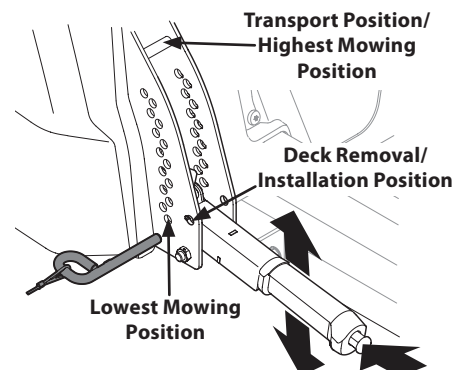

Figure 4-13
- a. Using the deck lift handle, raise the deck to the position that provides the most horizontal run of the belt between the deck idler pulleys and the PTO pulley on the bottom of the engine. See Figure 4-13.
- d. Lower the deck into the deck removal/installation position using the deck lift handle. See Figure 4-13.
- e. Lower the deck into the deck removal/ installation position using the deck lift handle. See Figure 4-13.
1. Place the deck lift handle in the highest mowing position. See Figure 4-13.